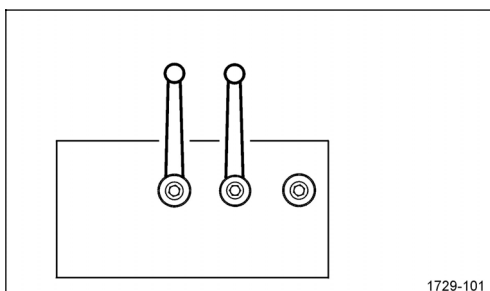

Figure 61
- ❑ Left machine side: Adjust ball valves of the hydraulic block according to Figure 61. Thus the cutting device is locked hydraulically.